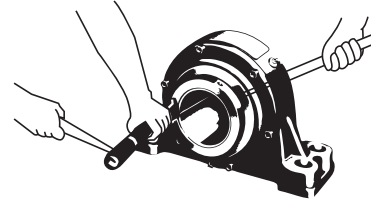

Figure 1 - Preferred Method - Method 1
Hitting on nut at an angle where unable to hit at right angle to face. This method is not as effective as the method shown in Figure 1. ①②
Hitting on O.D. of nut with brass bar held at right angle to shaft. This method is not as effective as the methods shown in Figures 1 or 2. ①②
This is an alternate method to those shown in Figures 1, 2, and 3 in that a spanner wrench is used in place of the barring rod. ①③